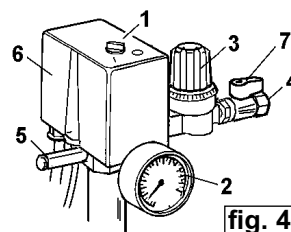

fig. 4
- 4.4. Stop the compressor by turning the main switch off (fig.4). The compressed air inside the compressor head will flow out, making the restart easier and preventing the motor from being damaged. **DO NOT**, other than in an emergency, stop the compressor by switching off the mains socket, or by pulling the plug out, as the pressure relief will not then occur and motor damage may result upon restart.